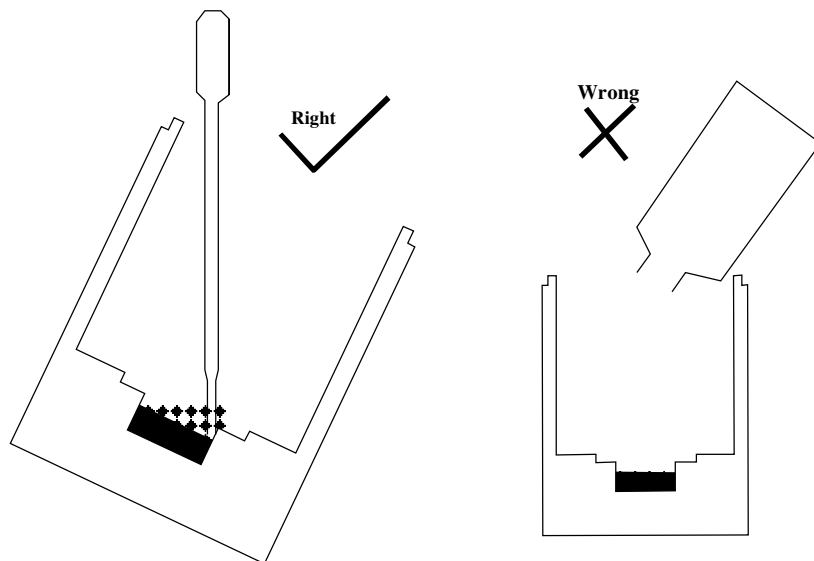

Figure 3.7 Adding Electrolyte to the BDS sensor
3. Ref. to Figure 3.7 for the method of adding electrolyte to the sensor. It is important that the sensor is being filled with the electrolyte without trapping gas bubbles in the lower part of the sensor.